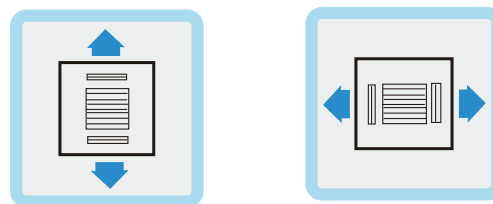

Figure 2.3
5. Based on the shape of the room, determine the airflow directions for the installation site. See Figure 2.3 for the schematic on the direction of airflow.